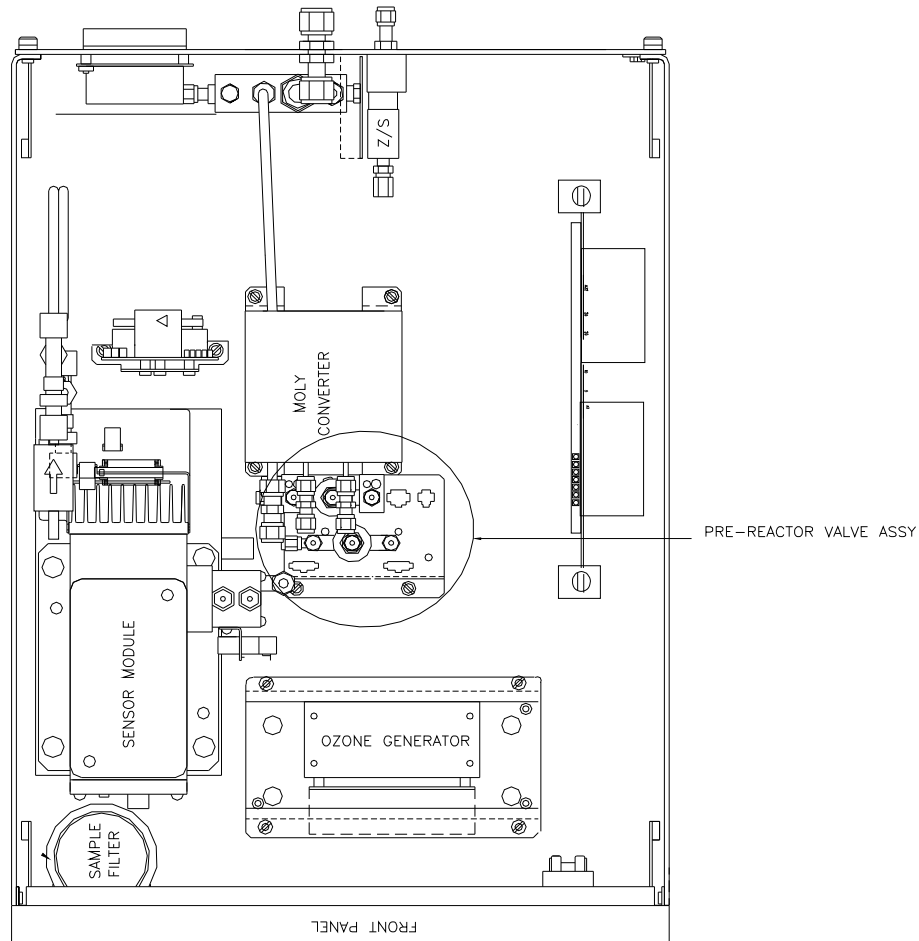

FIGURE 1
3. Locate the pre-reactor valve assembly. Figure 1